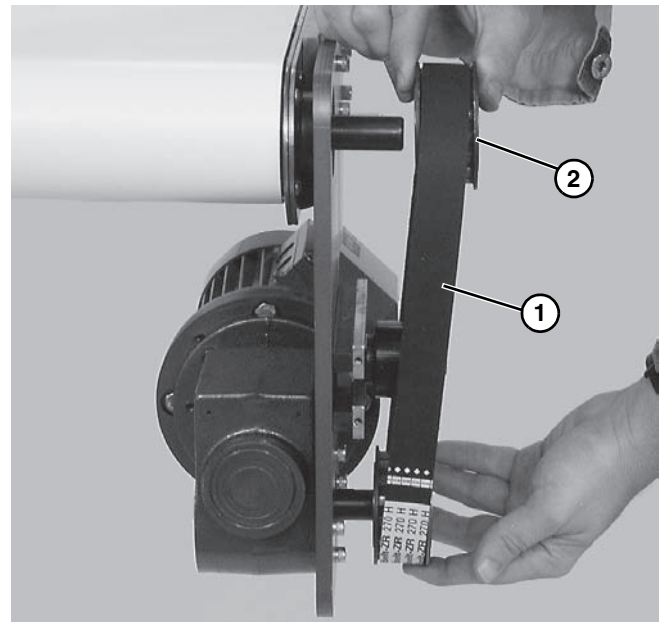

Figure 14
3. Remove timing belt (**Figure 14, item 1**).
| If timing belt does not slide over pulley flange, loosen driven pulley taper-lock screws (Figure 14, item 2) and remove pulley with belt (Figure 14, item 1). For re-installation, see steps 6 thru 8 on beginning on page 7. |